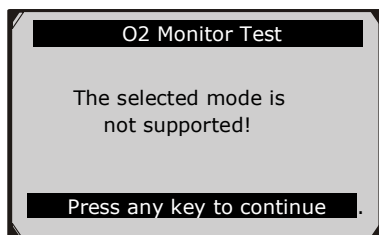

Figure 6.25
- If the vehicle does not support the mode, an advisory message will be displayed on the screen. (Figure 6.25)